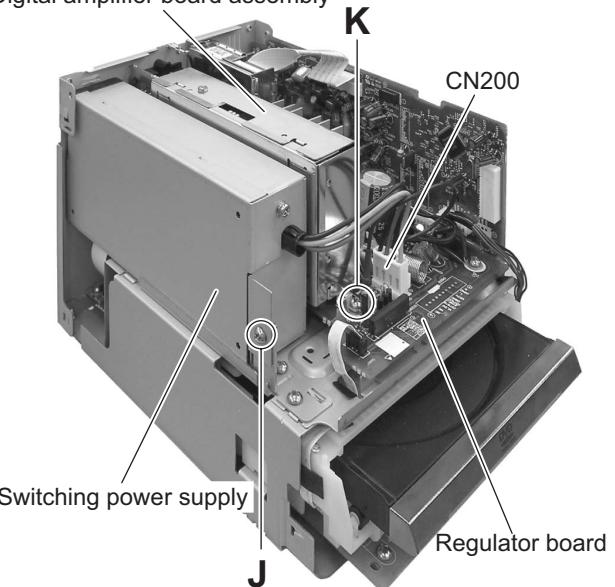

Fig.11
- (2) From the top side of the main body, disconnect the wire from the connector **CN200** on the regulator board. (See Fig.11.)
- (3) From the left side of the main body, remove the screw **J** attaching the main body. (See Fig.11.)
- (4) Take out the switching power supply. (See Fig.11.)
(See Figs.11 and 12)
- (1) From the top side of the main body, remove the screw **K** attaching the digital amplifier board assembly. (See Fig.11.)